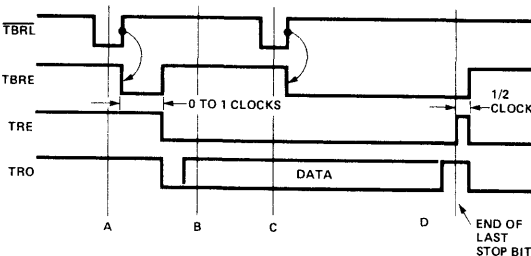

FIGURE 7. Transmitter Timing (Not to Scale)
Transmitter timing is shown in Figure 7. (A) Data is loaded into the transmitter buffer register from the inputs TBR1 through TBR8 by a logic low on the TBRLoad input. Valid data must be present at least t_{DS} prior to and t_{DH} following the rising edge of TBRL. If words less than 8 bits are used, only the least significant bits are used. The character is right justified into the least significant bit, TBR1. (B) The rising edge of TBRL clears TBREmpty. 0 to 1 clock cycles later, data is transferred to the transmitter register, TREmpty is cleared and transmission starts. TBREmpty is reset to a logic high. Output data is clocked by TRClock, which is 16 times the data rate. (C) A second pulse on TBRLoad loads data into the transmitter buffer register. Data transfer to the transmitter register is delayed until transmission of the current character is complete. (D) Data is automatically transferred to the transmitter register and transmission of that character begins.